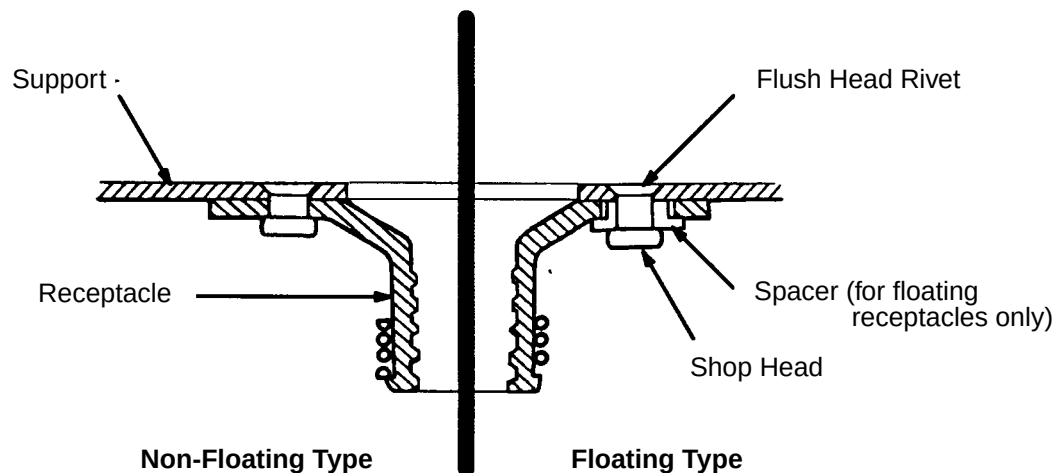
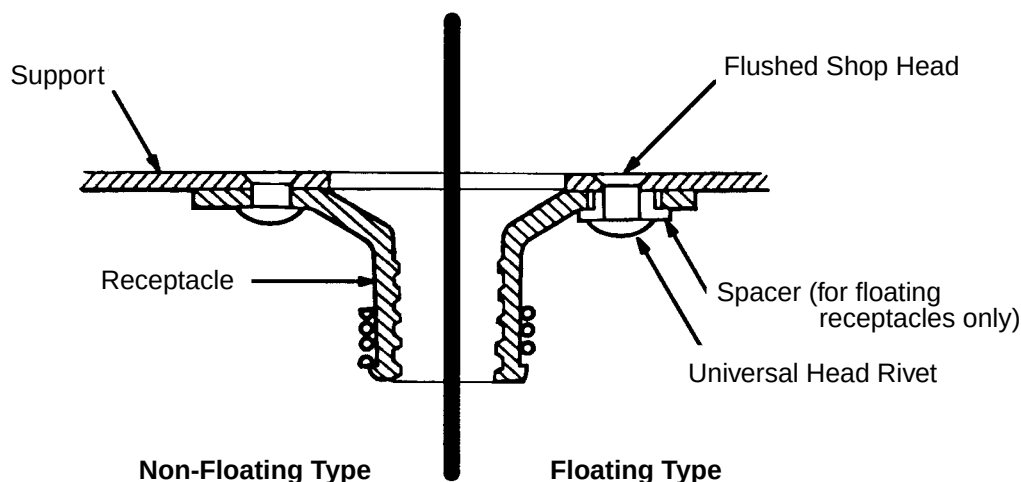

Figure 9 - Receptacle Installation Using Flush Head Rivets
Figure 10 - Receptacle Installation Using Protruding Head Rivets
- Step 4. Install rivets according to PPS 2.01 as shown in Figure 9 (flush head rivets) or Figure 10 (protruding head rivets). For floating type receptacles, use spacers as specified in Table 2.